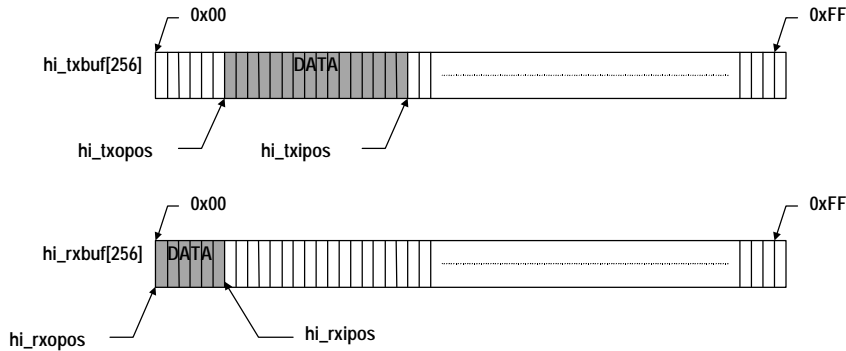

Figure 12 Transmit and Receive Buffer Structure
6.5.4.1 Data is transmitted and received from a port using the circular transmit and receive buffers. See Figure 12.